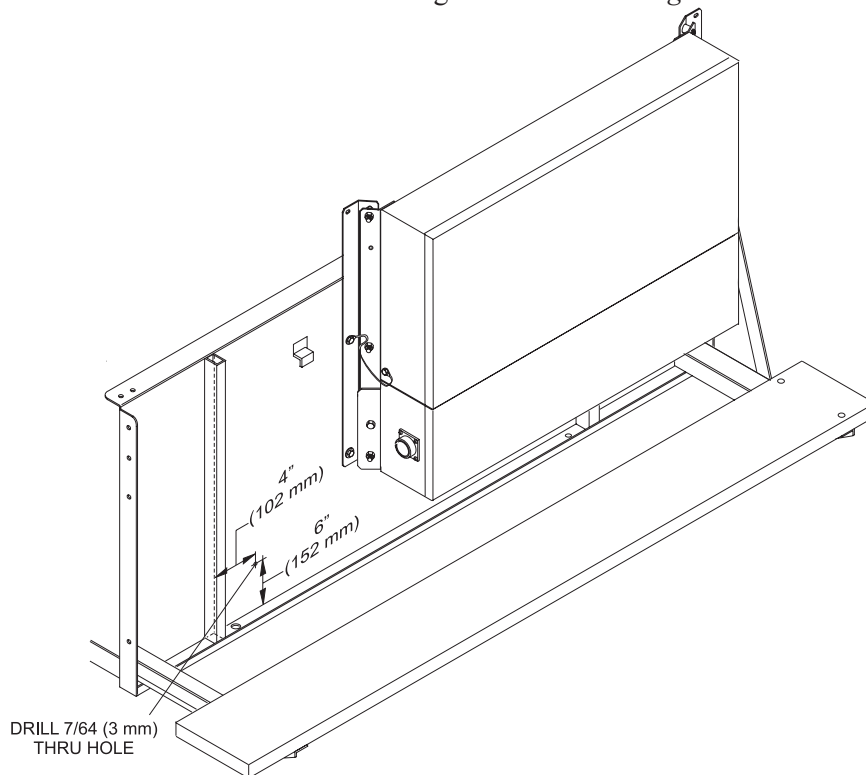

Figure 7
2. Locate and drill the first pilot hole for the Emergency Stop Interface Box. Align the predrilled hole and mark and drill the remaining holes. Refer to *Figures 7 & 8*.